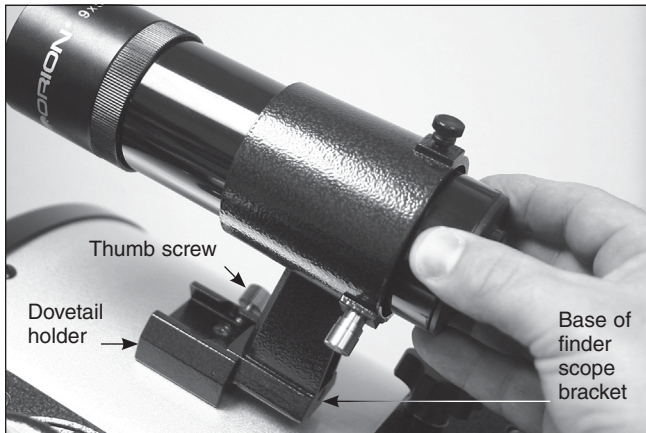

Figure 28. The base of the finder scope bracket goes into the dovetail holder and is secured with the holder's thumb screw.
2. Insert the base of the finder scope bracket into the dovetail holder located adjacent to the telescope's focuser (**Figure 28**). Lock the bracket into place by tightening the thumb screw on the dovetail holder.